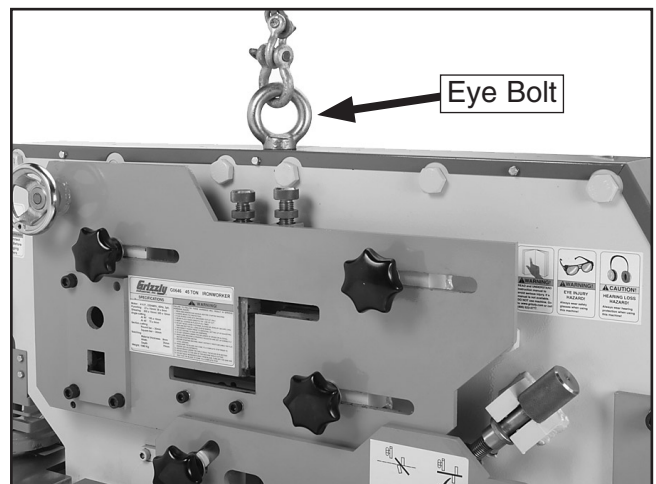

Figure 12. Safety hook and lifting chain attached to the eye bolt of the machine.
2. Attach the safety hook and lifting chain to the lifting eye bolt (see **Figure 12**).